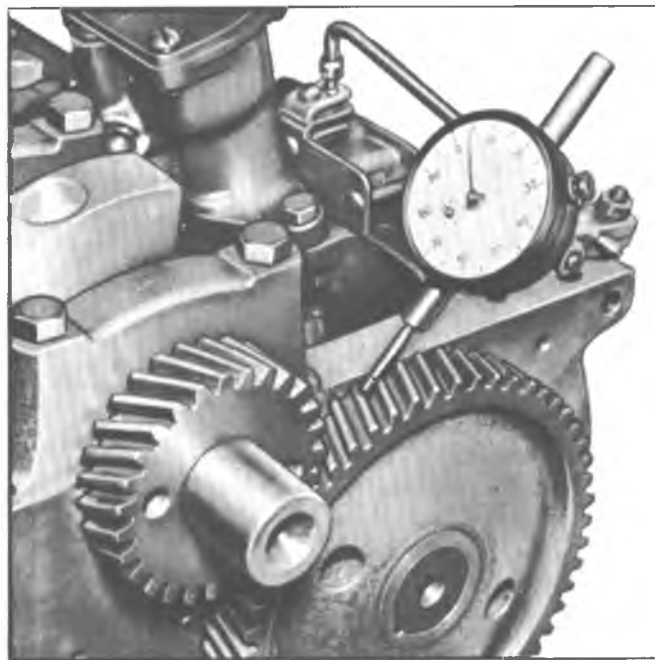

Fig. 27L—Checking Timing Gear Backlash
5. Check the backlash between the timing gear teeth with a dial indicator (fig. 27L). The backlash should be not less than .004" nor more than .006".